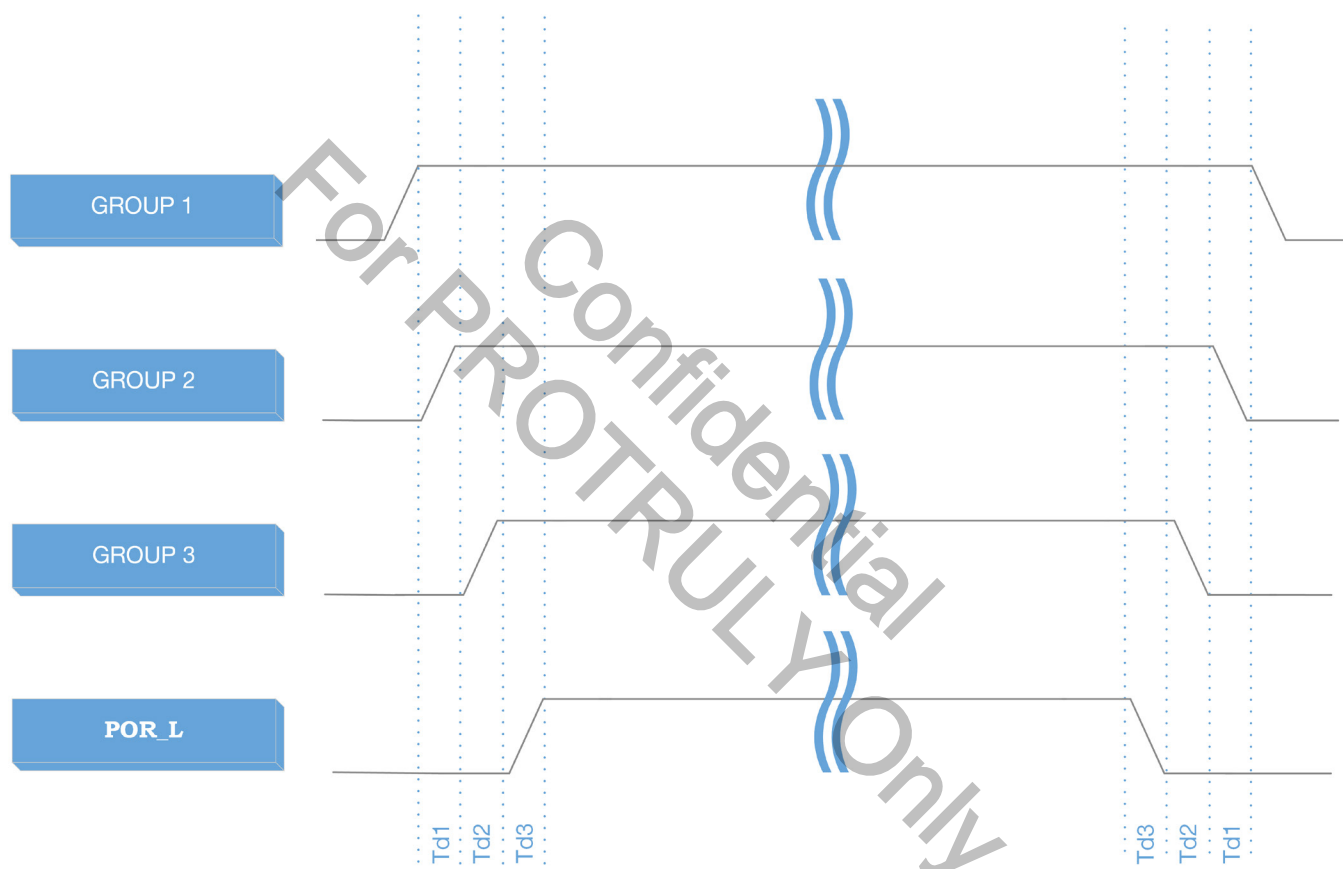

Figure 2-4. Power-On Sequence Timing for Power Rail Groups.
- The global reset pin **POR_L** should be asserted (Low), then released or deasserted (High) after all power rails come up (Figure 2-4).
The following figure illustrates a specific example showing the power-on sequence groups (Table 2-1) and sequence timing (Figure 2-4) for representative voltage levels and functional group names.